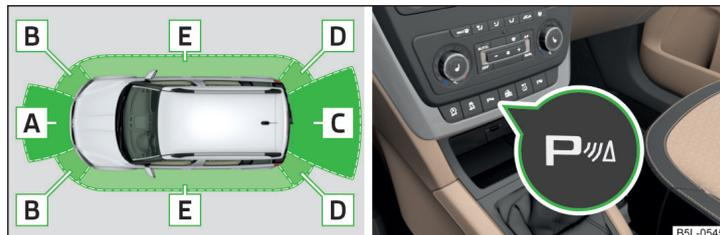

Fig. 136 Sampled areas and range of the sensors / system button (Version 2, 3)
Depending on the equipment, the following system versions can exist » Fig. 136.
On vehicles equipped with a factory-fitted towing device, only system areas **A** and **B** » Fig. 136 are active when towing a trailer.
The system is automatically activated by selecting **reverse gear** or pressing the symbol button **P** » Fig. 136 on page 147 .
- The display can be interrupted by pressing the symbol key **P** » Fig. 136 on page 147.